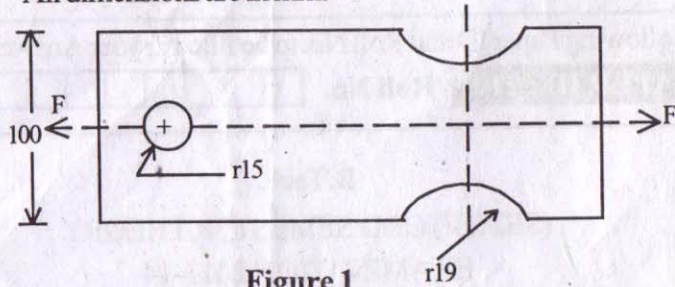

Figure 1
- (e) A flat bar as shown in the Figure 1 is subjected to an axial load F equal to 500 N. Assuming that the stress in the bar